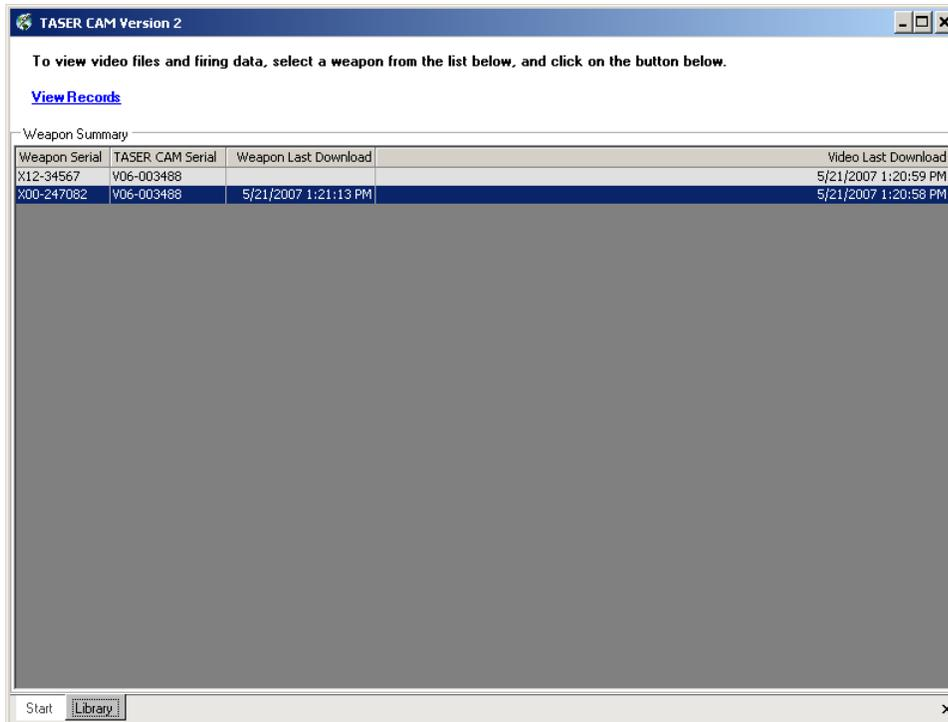

Figure 22
15. If View Data Library was selected, a list of downloaded weapons will be listed (Figure 22).